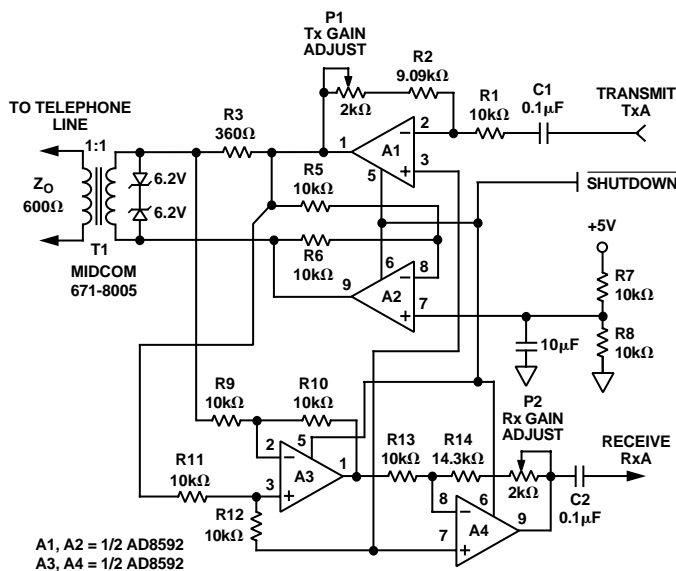

Figure 38. A Single Supply Direct Access Arrangement for PCMCIA Modems
Figure 38 illustrates a +5 V transmit/receive telephone line interface for 600 Ω systems. It allows full duplex transmission of signals on a transformer-coupled 600 Ω line in a differential manner. Amplifier A1 provides gain that can be adjusted to meet the modem output drive requirements. Both A1 and A2 are configured to apply the largest possible signal on a single supply to the transformer. Because of the AD8594's high output current drive and low dropout voltages, the largest signal available on a single +5 V supply is approximately 4.5 V_{p-p} into a 600 Ω transmission system. Amplifier A3 is configured as a difference amplifier for two reasons: (1) It prevents the transmit signal from interfering with the receive signal and (2) it extracts the receive signal from the transmission line for amplification by A4. Amplifier A4's gain can be adjusted in the same manner as A1's to meet the modem's input signal requirements. Standard resistor values permit the use of SIP (Single In-line Package) format resistor arrays. Couple this with the AD8594 16-lead TSSOP or SOIC footprint, and this circuit offers a compact, cost effective solution.